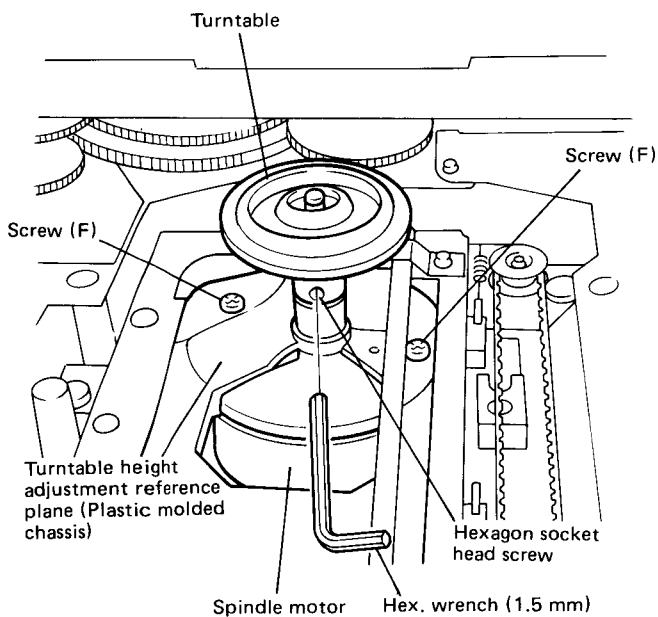

Fig. 17
3. Loosen the hexagon socket head screw using a hexagon wrench, then draw out the turntable from the spindle motor shaft. (Fig. 17)
4. Remove the screws (F) installing the spindle motor to the plastic molded chassis. (Fig. 17)
3. Place the turntable height adjusting device in close contact with the upper surface of the turntable in such a manner that its leg section comes above the height adjustment reference plane of the plastic molded chassis. (Figs. 17 and 20)